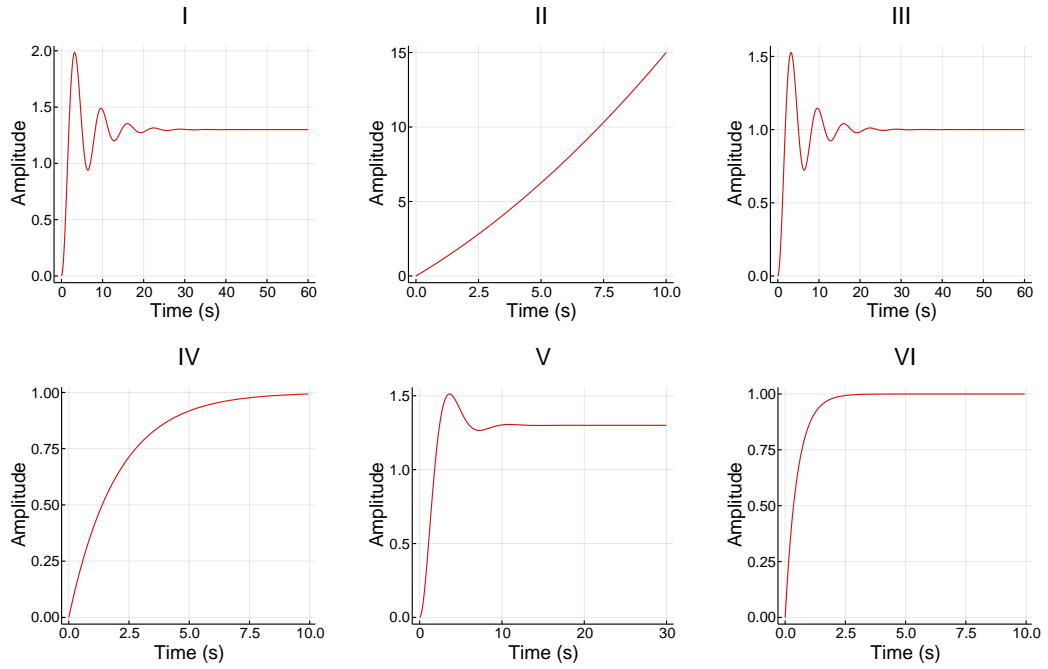
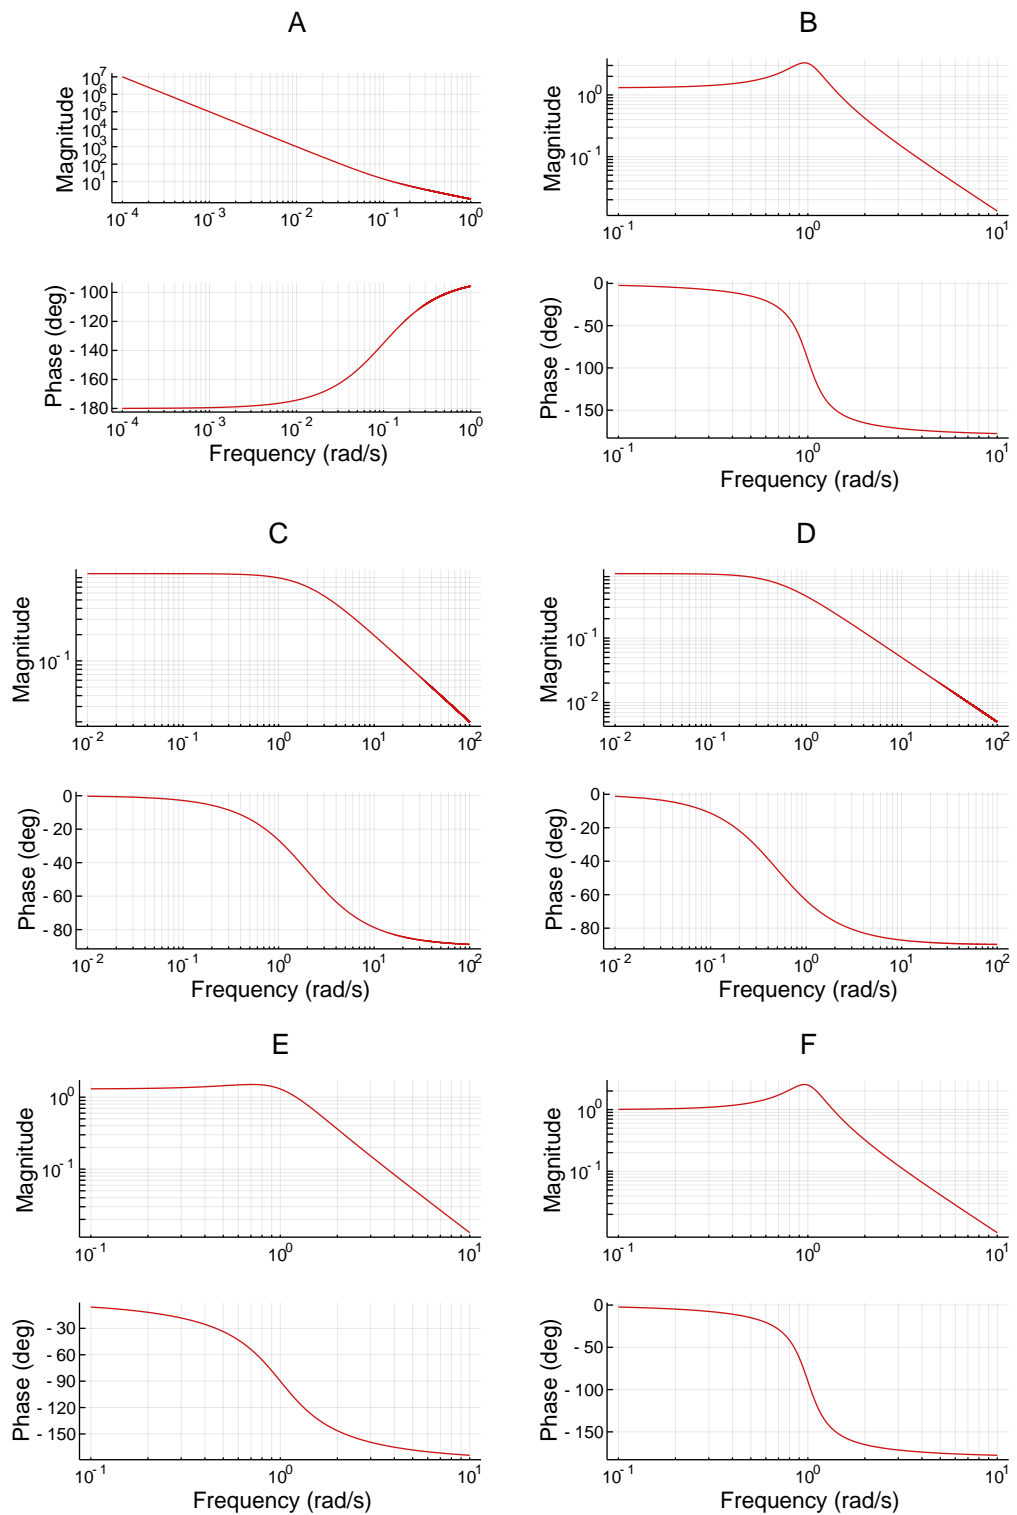

Figure 2: Step responses for problem 3.
Figure 3: Bode plots for problem 3.
3. State which step response (I-VI, see Figure 2) and Bode plot (A-F, see Figure 3) match each of the four transfer functions below. Each correctly justified match is given 0.5 points. (4 p)